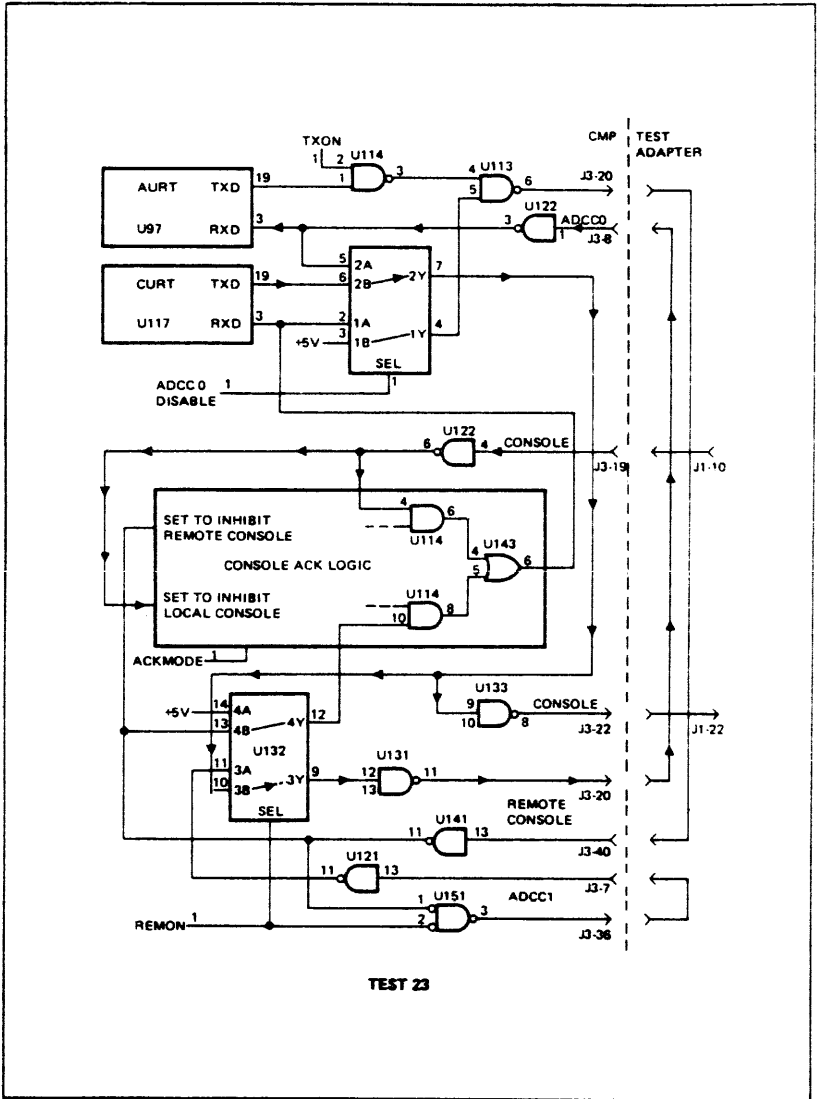

Figure 3-12. Data Comm Test Step 23
- 23 This step leaves the ACK circuitry in a state that should allow Remote Console data to be received by the CURT in the next step. (See figure 3-12.)